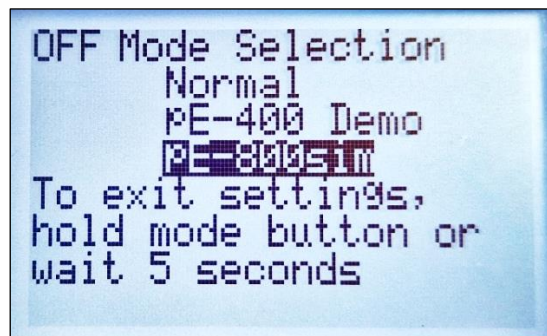

Figure 3: Selecting pE-800sim mode from manual control pod
2. Before the 'Settings' screen closes, press the 'mode' button four times to reach the 'Mode Selection' screen (Figure 3). Scroll using the '+' or '-' buttons on the manual control pod and select the 'pE-800sim' option.